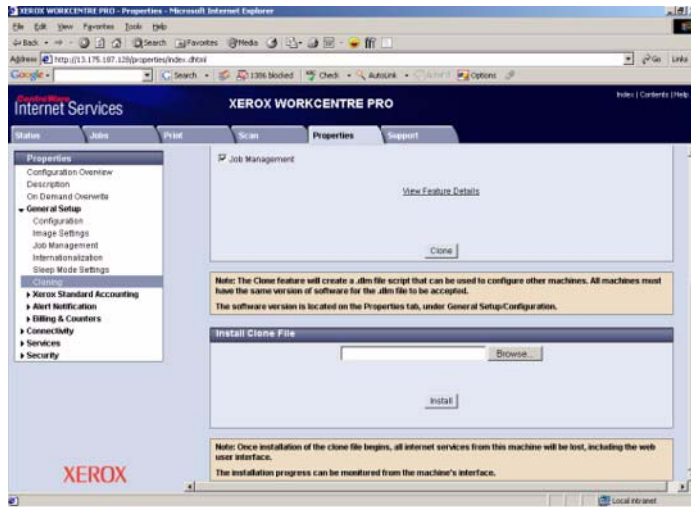

Figure 2 Important Notes!
- Scroll down the page to see critical information about the cloning process (Figure 2). Click the **View Feature Details** link to get a list of data that is backed up and/or restored using the Cloning Feature.
- Scroll to the bottom of the page (Figure 2).